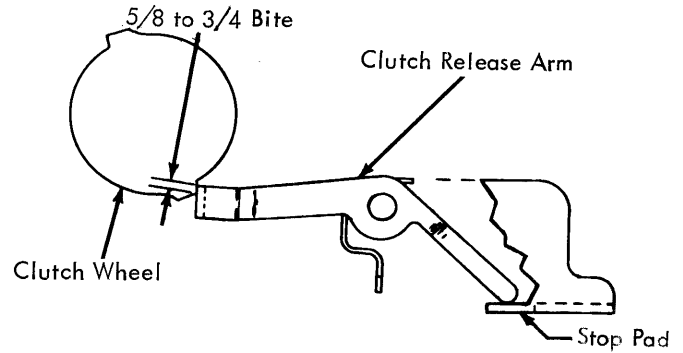

FIGURE 163. Clutch Release Arm Stop Pad
6. Clutch Release Arm Stop Pad (Fig. 163) - Form the stop pads so that with the clutch release arm at rest (against its stop pad) the clutch release arm has a 5/8 to 3/4 bite on the latching surface of the clutch wheel. This should be observed from the rear of the machine.